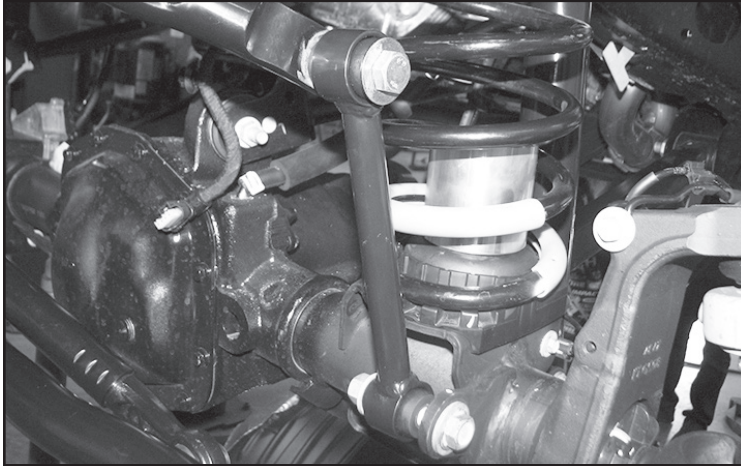

FIGURE 20 - STEP 20
20. Install FT50048 (Bushings) and FT404739 (Sleeves) into FT50261BK (Sway bar links). Then, install the links to the axle mount and sway bar using the supplied M12 x 70mm or M14 hardware (2024 Models) for the upper location and the factory for the lower. Torque to 65 ft-lbs. **SEE FIGURE 20**